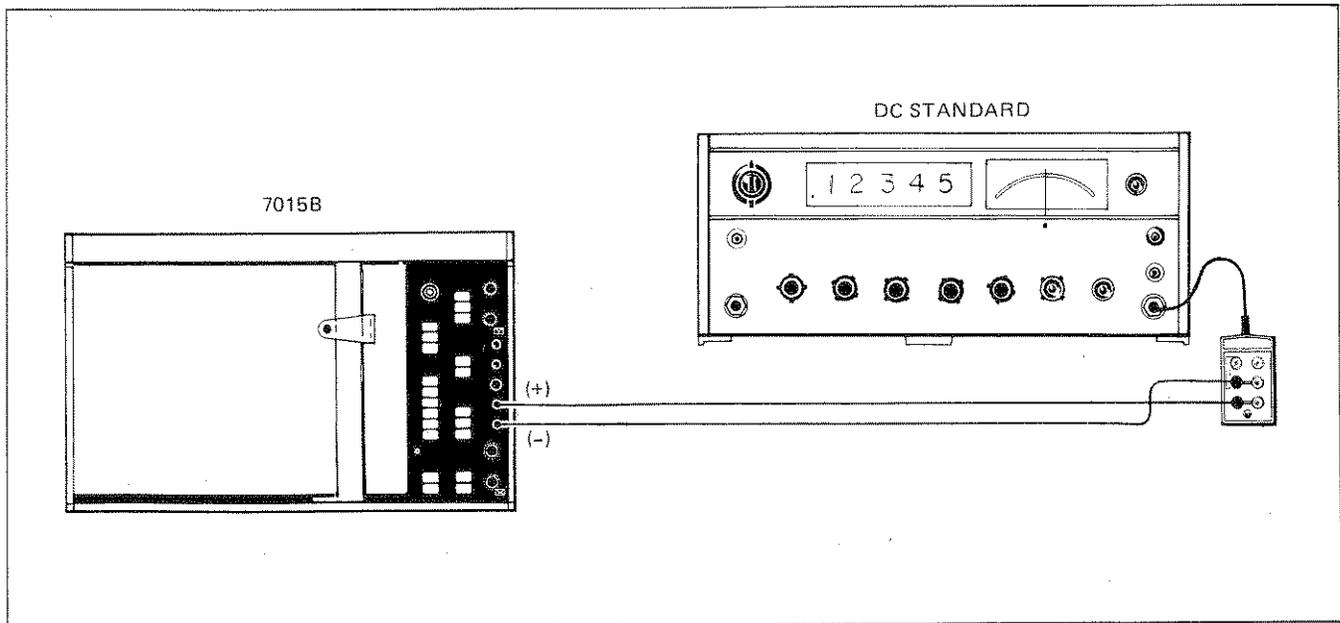

Figure 5-1. Sweep Calibration Connection
c. Connect a DC Standard to the X-axis plus and minus input terminals. Set at zero volts. (See Figure 5-1.)
- c. Connect DC Standard to Y-axis plus and minus input terminals. Set at zero volts. (See Figure 5-1.)